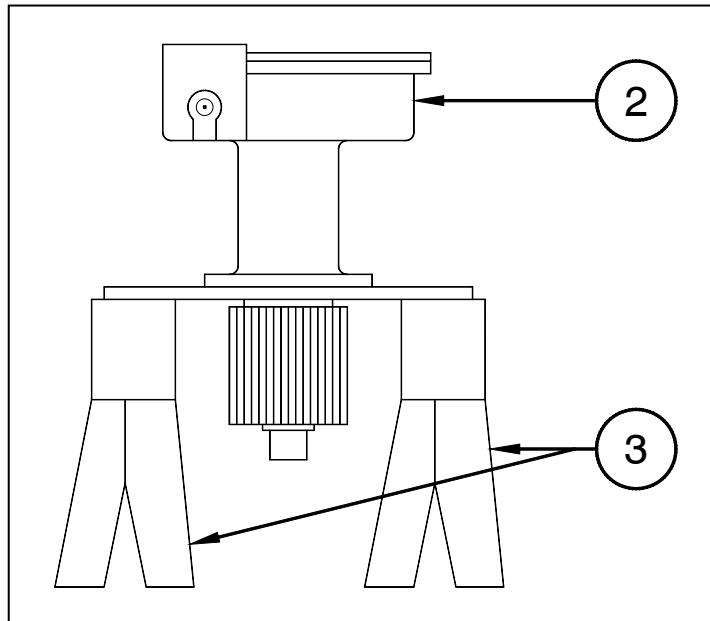

Figure 4.7b
- .5 Place the worm gear unit on saw-horse type supports as shown in Figure 4.7b. Make sure this device will support the weight of the worm gear unit.